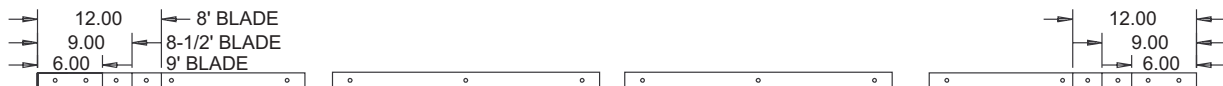

Figure 2
2. Center deflector lengthwise on top of blade curl. If deflector is longer than the blade, cut off excess material from each end. If retainer bars are longer than blade, cut off the amounts from ends of two retainer bars as shown in Figure 2.